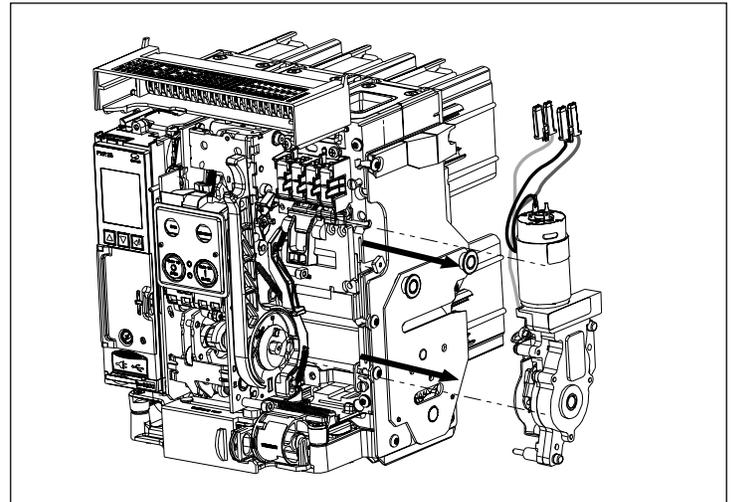

Figure 29. Step 4.
**Step 4:** Complete removal of the motor operator by pulling it out (Figure 29).